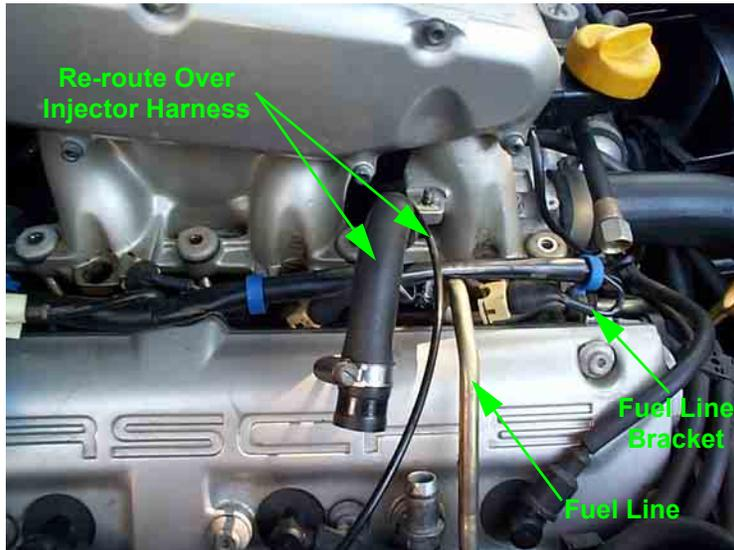

FIGURE 9
- c. Examine the brass fuel line that runs over the front passenger side cam cover. See *Figure 9*.
- g. Re-route the passenger-side breather hoses over the injector wiring harness. *See Figure 9.*
- h. Re-route over the injector harness the vacuum line that runs over the passenger-side cam cover and underneath the intake. (This is one of the lines you disconnected in step f above.) *See Figure 9.*